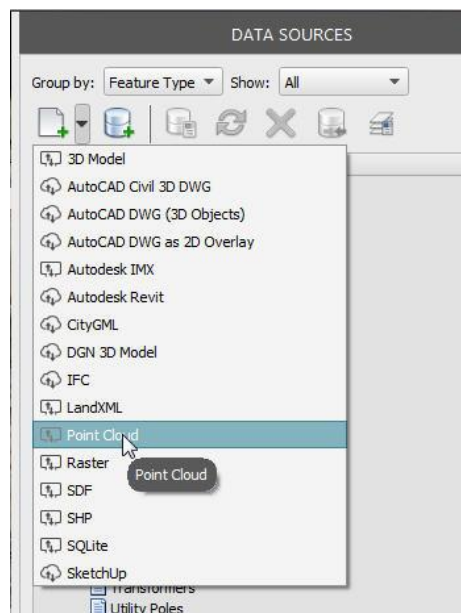

Figure 17: Add a Point Cloud Data Source
- Add a point cloud (Figure 17)